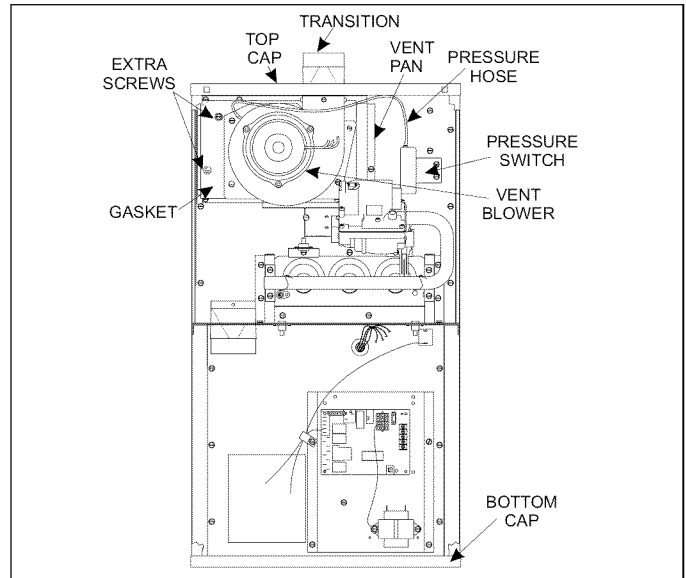

FIGURE 1: Upflow/Horizontal Configuration
9. Rotate the vent blower and transition 180° so that its outlet points to the outlet air end of the furnaces as shown in Figure 1.
11. Install the two extra machine screws in the two open holes in the front of the vent pan See Figure 1.
15. Install the top cap at the same end of the furnace as the vent blower, using the sheet metal screws saved earlier. See Figure 1.
16. Install the bottom cap on the bottom of the furnace using the sheet metal screws saved earlier. See Figure 1.